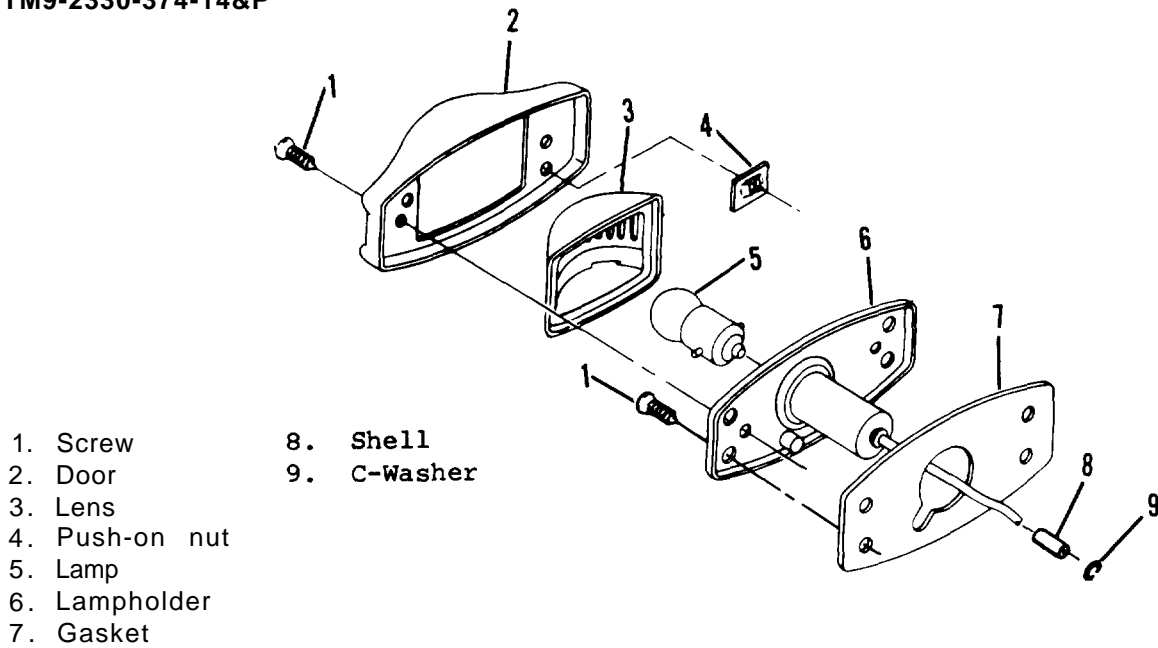

Figure 4-8. Clearance light
- (1) Remove two screws (1, figure 4-8) securing door (2).
- (2) Lens (3) is clipped to door (2) by push-on nuts (4). Pry off nuts to remove lens from door.
- (3) Remove lamp (5) from lampholder (6).
- (4) Pry out gasket (7) from lampholder (6).
- (5) Remove C-washer (9) and shell (8) from end of cable.